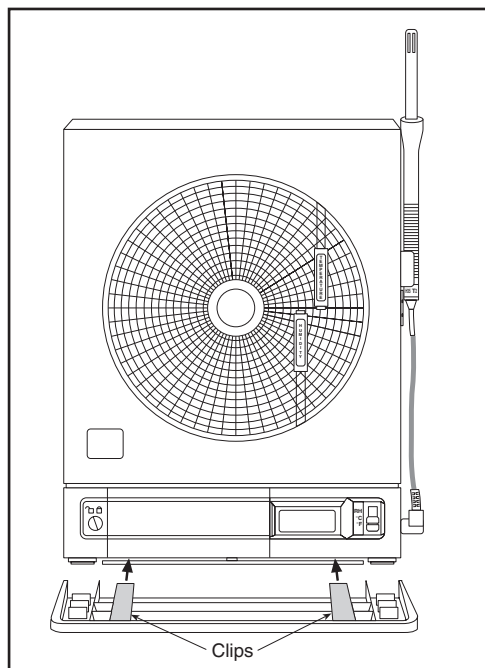

Figure 2-4a. Installing the Foot Cover (Top View)
2. Roughly position the foot cover so the clips are in line with the stabilizing arm. Gently "stretch" the clips out and position over the arm as shown in Figure 2-4a.